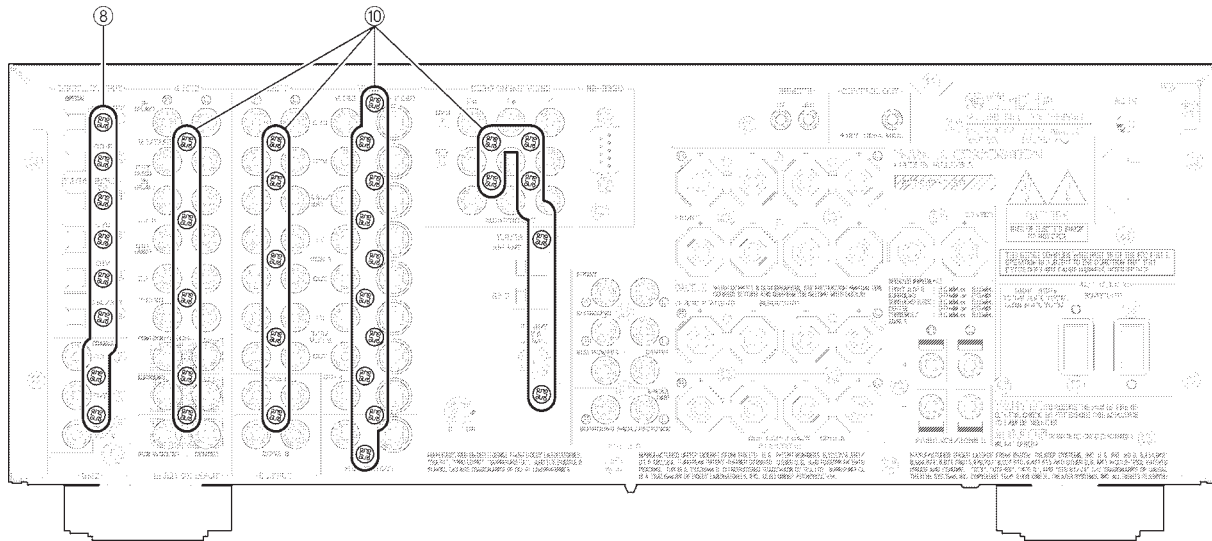

Fig. 5
- d. Remove 8 screws (⑧). (Fig. 5)
- Remove 26 screws (⑩). (Fig. 5)
- Remove VIDEO (1), (3), (5) ~ (8), FUNCTION, CONVERSION P.C.B.s and Tuner.